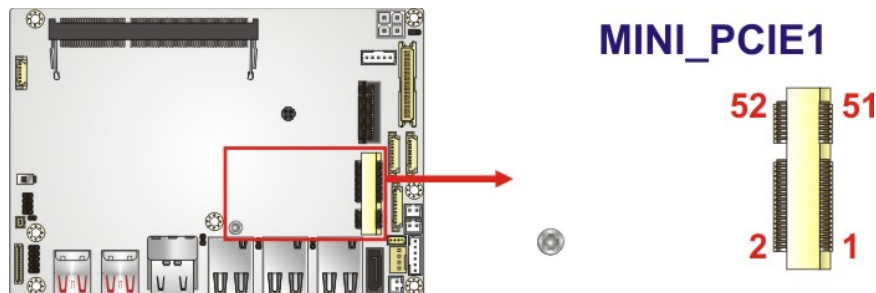

Figure 3-12: Full-size PCIe Mini Card Slot Location
- CN Location:** See **Figure 3-12**